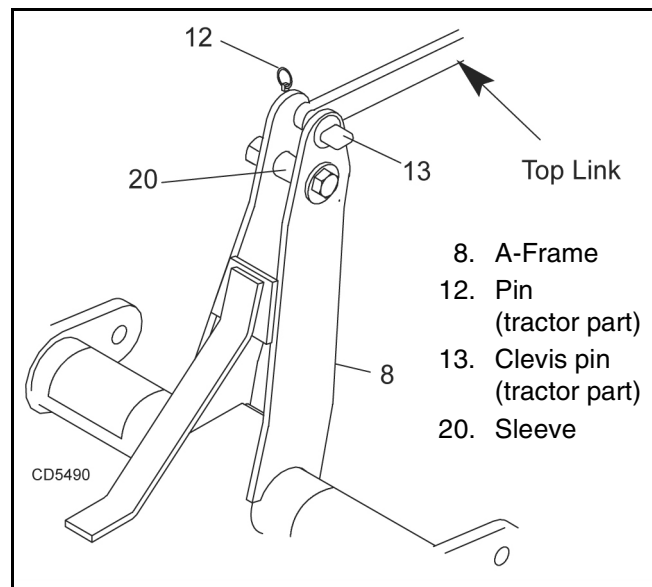

Figure 2. Top Link Attachment
Connect tractor top link to A-frame (8) by inserting tractor clevis pin (13) into top hitch point on A-frame and secure, Figure 2.